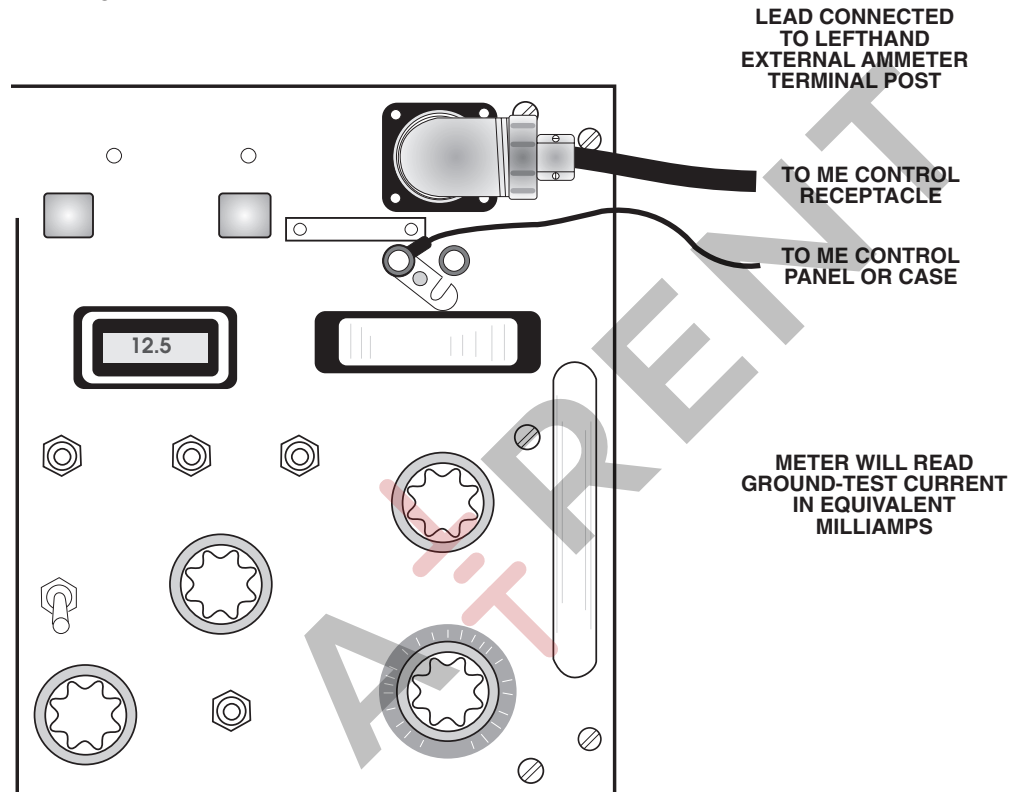

Figure 6. Test hookup for form 2 controls below serial number 1615
3. Connect the battery plug into the other (female) plug of the test cable (Figure 6).